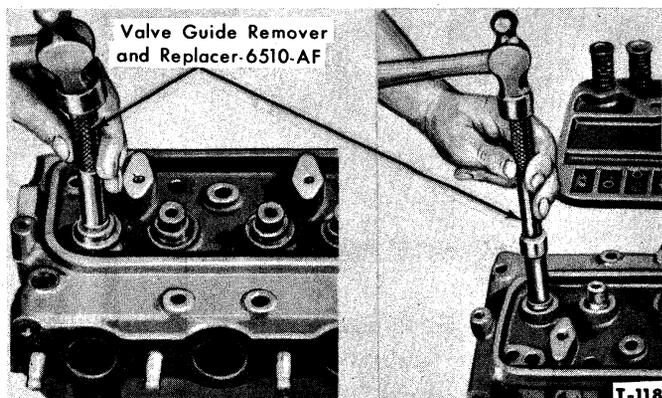

Figure 21—Replacing Valve Guides
1. Place the cylinder head on the bench with the gasket surface facing downward and blocked up approximately 2" from the bench. Drive the valve guides out of the head with Valve Guide Remover 6510-AF as shown in Figure 21. Place